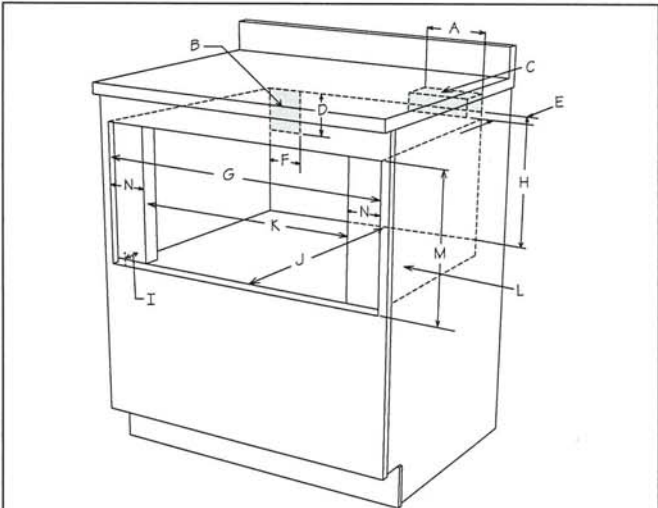

Figure 2
1. Prepare cabinet opening as shown in Figure 2.